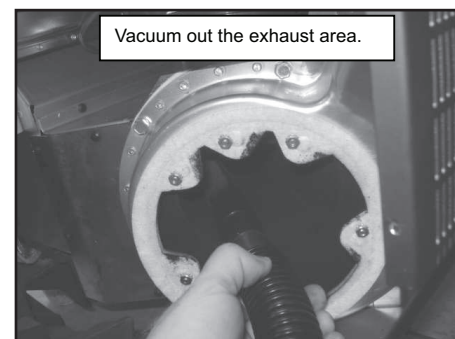

Figure 38.5
4. Vacuum out the exhaust area. **Figure 38.5.**